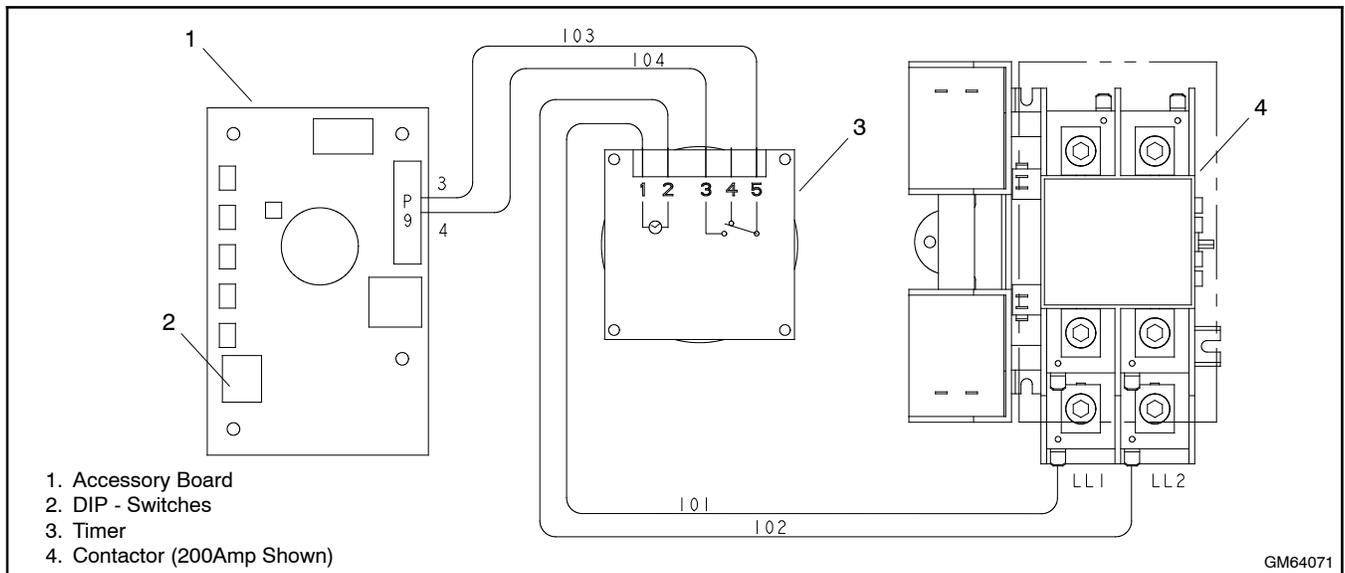

Figure 8 Wiring Diagram for RDT Models
2. Use the leads supplied with the kit to connect the timer according to the wiring diagrams. See Figure 8.
On RDT model transfer switches, the exercise timer must be set manually to run either loaded or unloaded exercises. Set DIP switch #2 on the Accessory Board to select loaded or unloaded exercise runs. See Figure 14. See Figure 8 for the location of the DIP switches on the accessory board.